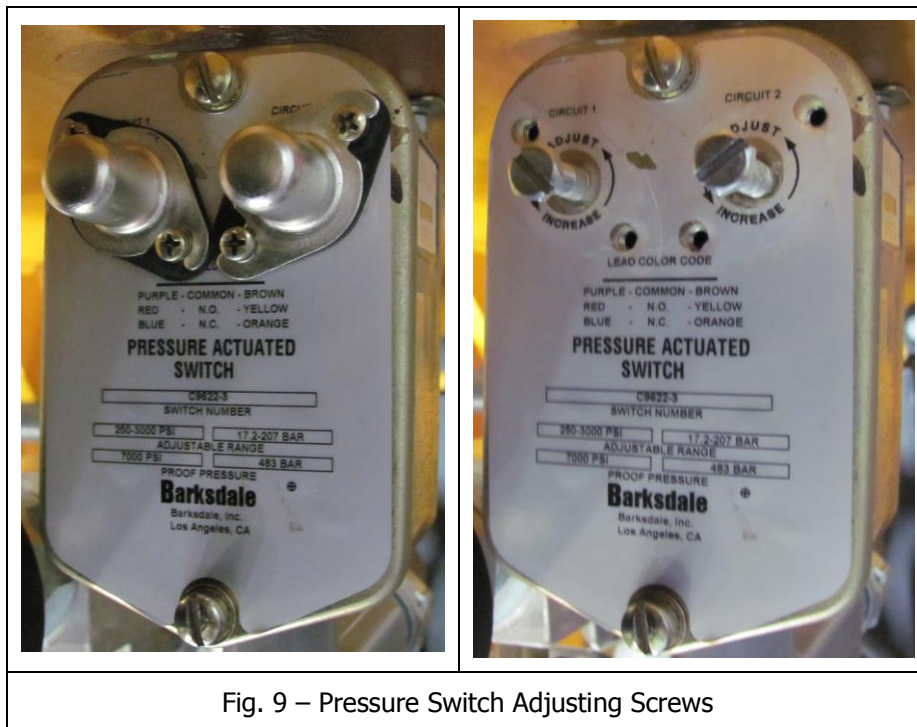

Fig. 9 – Pressure Switch Adjusting Screws
- 5.2. Refer to Fig. 9. Remove the two small covers on the top of the Pressure Switch. This allows access to the two adjustment screws. One is labeled "Circuit 1" and the other is labeled "Circuit 2."